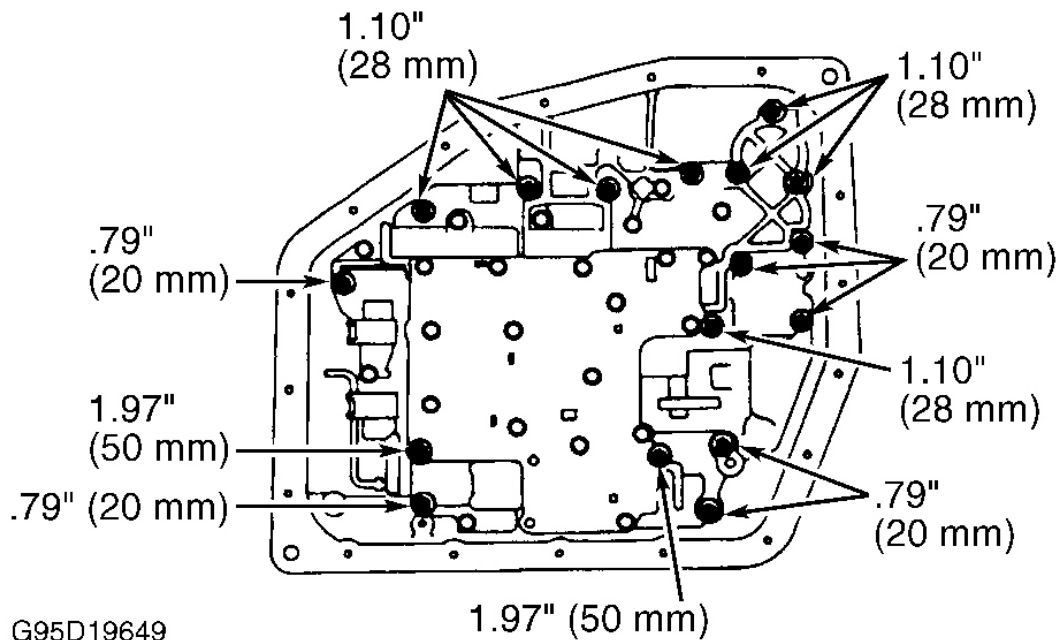

Fig. 8: Valve Body Assembly Bolts
2. Remove manual detent spring. Disconnect solenoid connector(s). Remove valve body assembly bolts. Note bolt length and location. See **Fig. 8** . Remove throttle cable. Disconnect manual valve connecting rod. Remove valve body assembly.
2. Install valve body assembly bolts finger tight. Ensure proper length bolts are installed in correct location. See **Fig. 8** . Tighten bolts to 89 INCH lbs. (10 N.m). Connect solenoid connector(s). Install detent spring and tighten bolt to 89 INCH lbs. (10 N.m). Ensure manual valve lever contacts center of roller on detent spring. Using a plastic hammer, tap oil tubes into place.